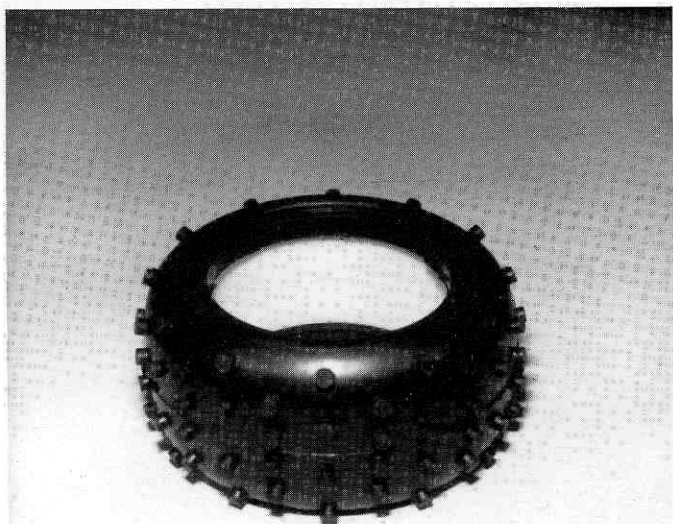

Fig. 154
□ **Fig. 154** They then should look like this.